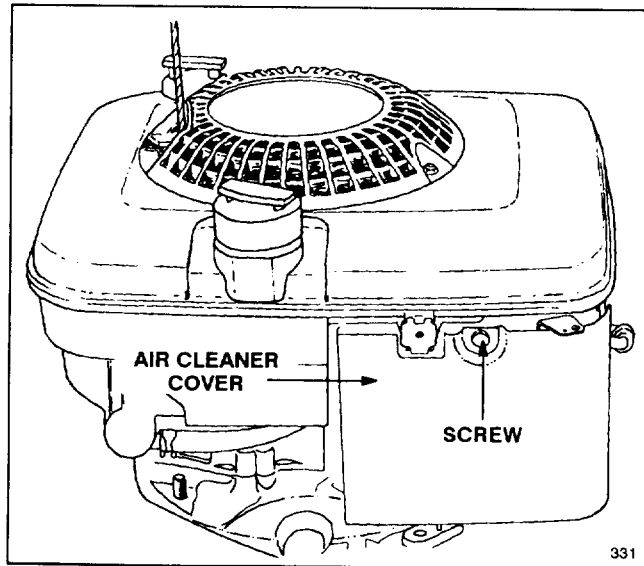

Figure 9
2. Remove screw securing air cleaner cover to engine (Fig. 9). Tilt cover down and clean thoroughly.